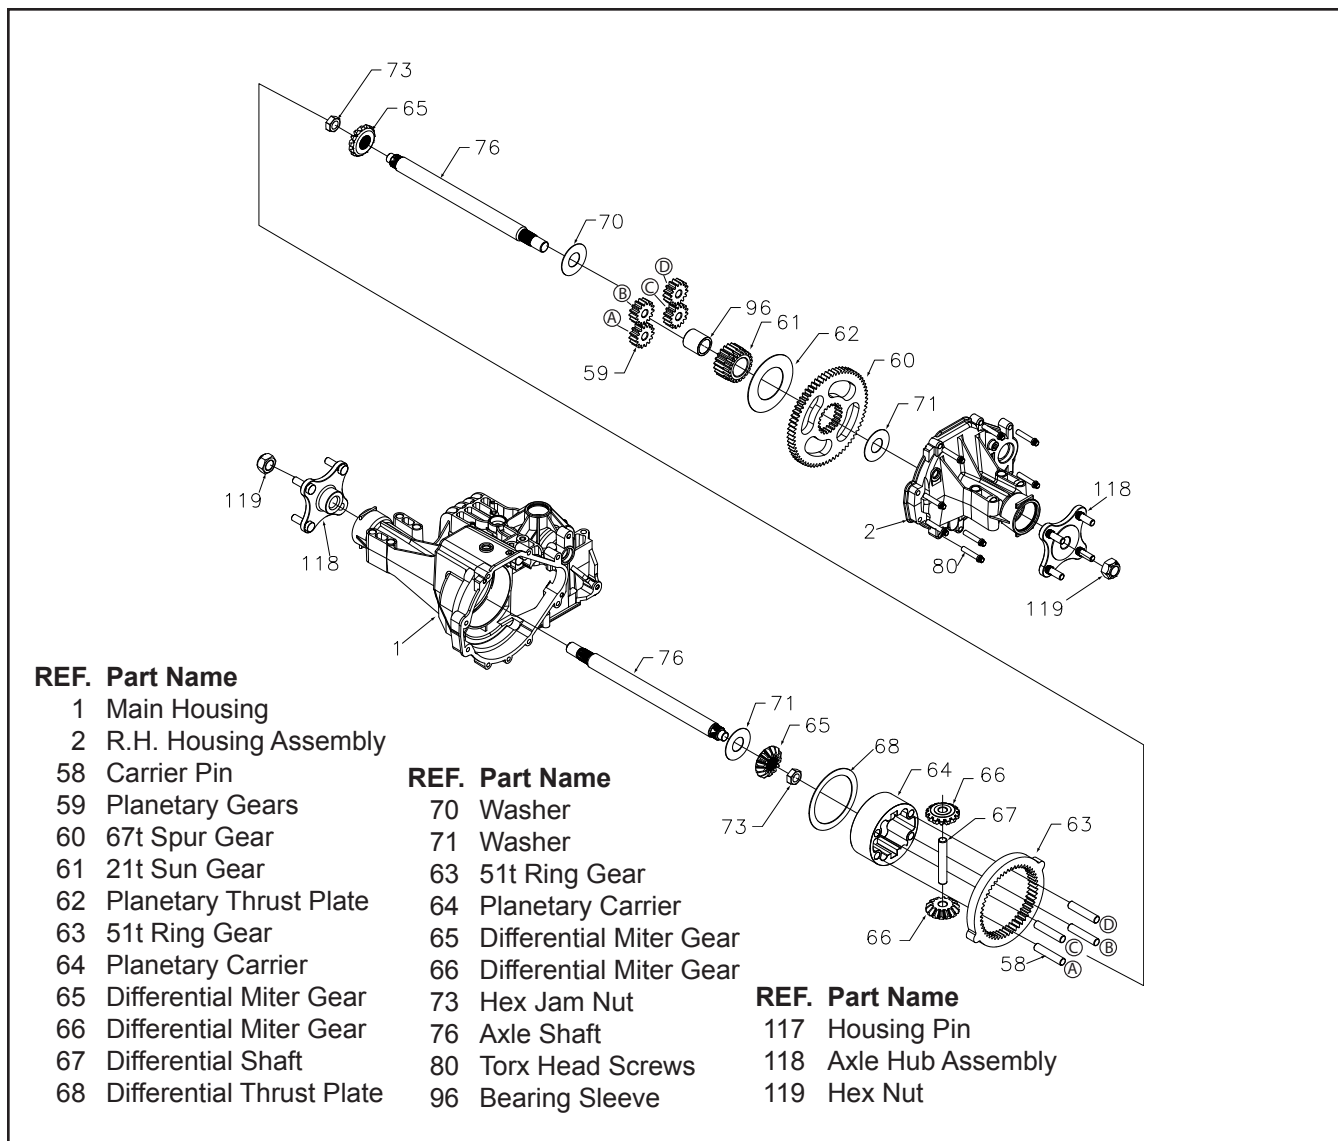

Figure 15. Planetary Differential Assembly
Refer to Figure 15, next page.
11. Install the planetary thrust plate (62).
12. Install the 67T spur gear (60) onto the 21T sun gear (61).
13. Slide washer (71) onto axle shaft (76).
14. Install the two housing pins (117) into the main housing.
15. Apply a bead of sealant to the R.H. housing (2).
16. Install R.H. housing (2) by sliding it down the axle shaft (76), over motor shaft assembly (24, Figure 15) and onto main housing (1).
17. Secure housings by installing the eight housing screws (80), per Table 5, Page 13.
18. After the transaxle has been installed in the vehicle, install the axle hub assemblies (118), according to the instructions in "Transaxle installation," Page 30.